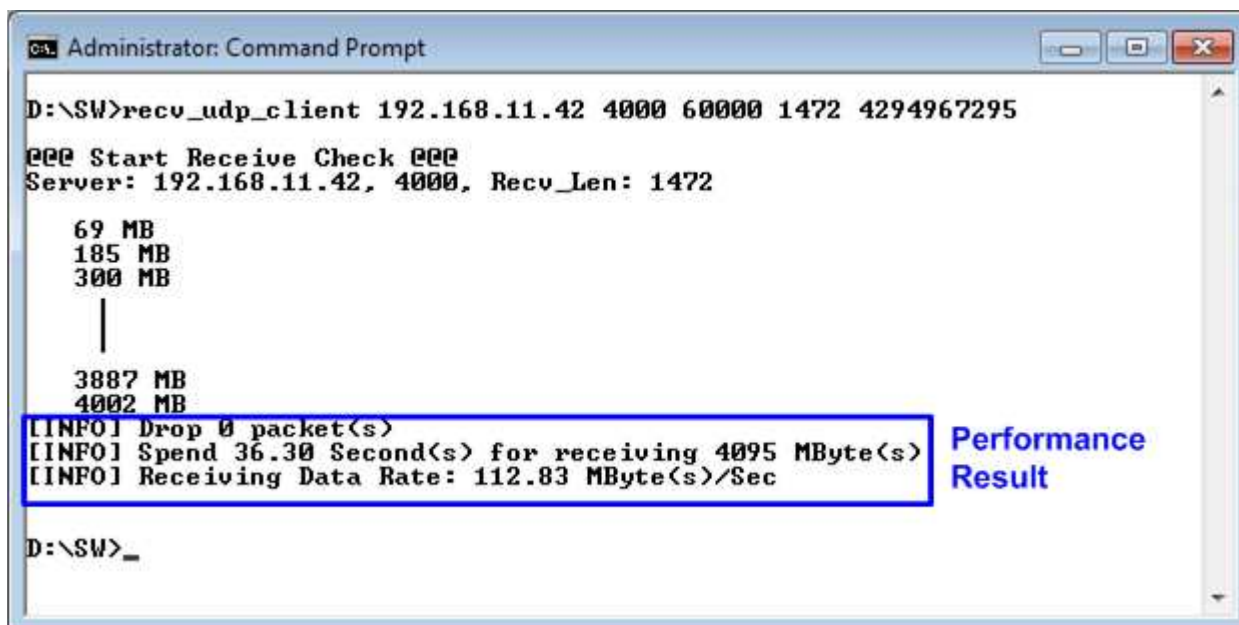

Figure 4-6 Output performance when running "recv_udp_client" with non-jumbo frame
- During receiving data, test application will display total received byte on the console every second. Finally, it will show total dropped packet, and performance as shown in Figure 4-6.